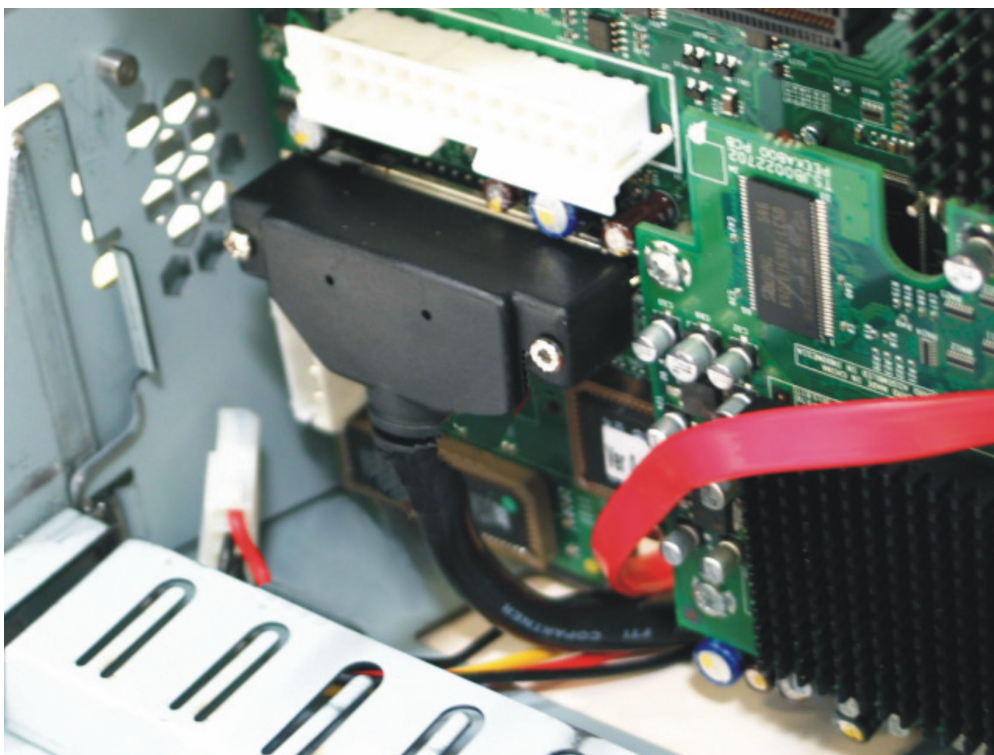

Figure 13. Removing the display tablet cable from the system board
9. Disconnect the display tablet cable from the system board by loosening the two thumbscrews (see Figure 13).